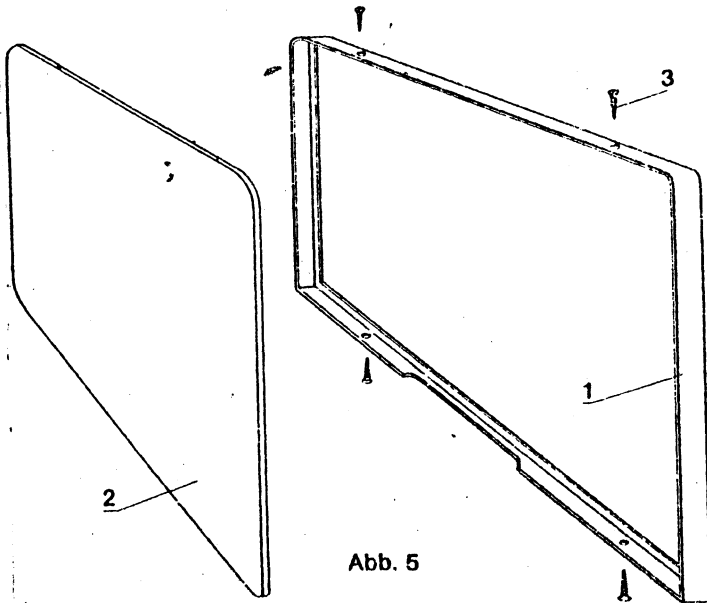

Abb. 5
2. Place decor panel supplied by furniture manufacturer with the dimensions 593 x 477 mm and a maximum thickness of 3 mm, on vapour guide (Figs. 5/2 and 5 a).
3. Surround vapour guide by decor frame as shown in Fig. 5/1 and secure frame on the top and on the bottom by 4 screws Fig. 5/3. By tightening these screws the frame is firmly pressed onto the decor panel.